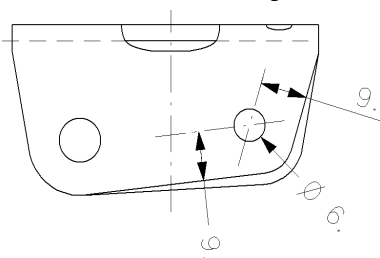

fig. 2
- Mark and center punch the bottom side of the left steering bracket to the dims. shown in fig. 2.